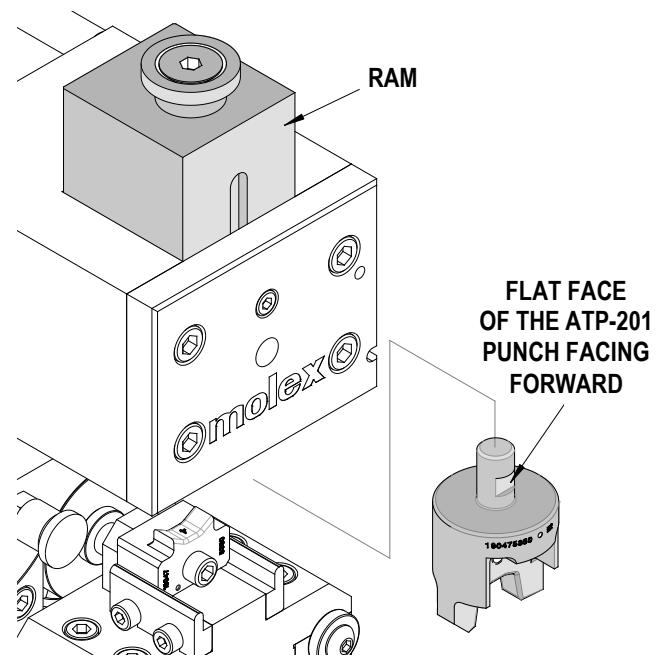

Figure 2-9
5. To install the punch assembly, orient the assembly so the flat on the round stub faces forward. Put the stub into the hole in the bottom of the ram and push the punch assembly up against the bottom of the ram. See Figure 2-9.